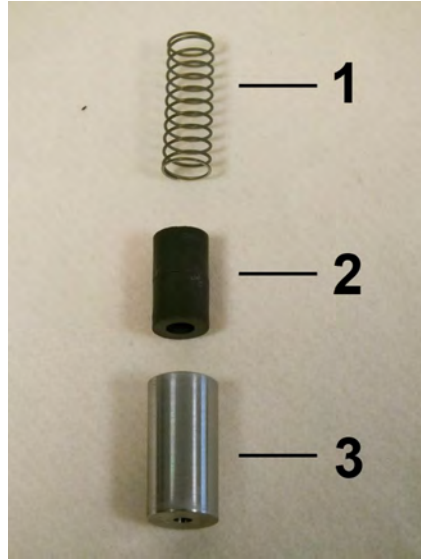

Fig. 45: Inner parts
3. ➤ Insert spring (Fig. 45/1) with magnets (Fig. 45/2) into the float (Fig. 45/3), ensuring proper magnetic pole orientation (north pole toward device outlet).